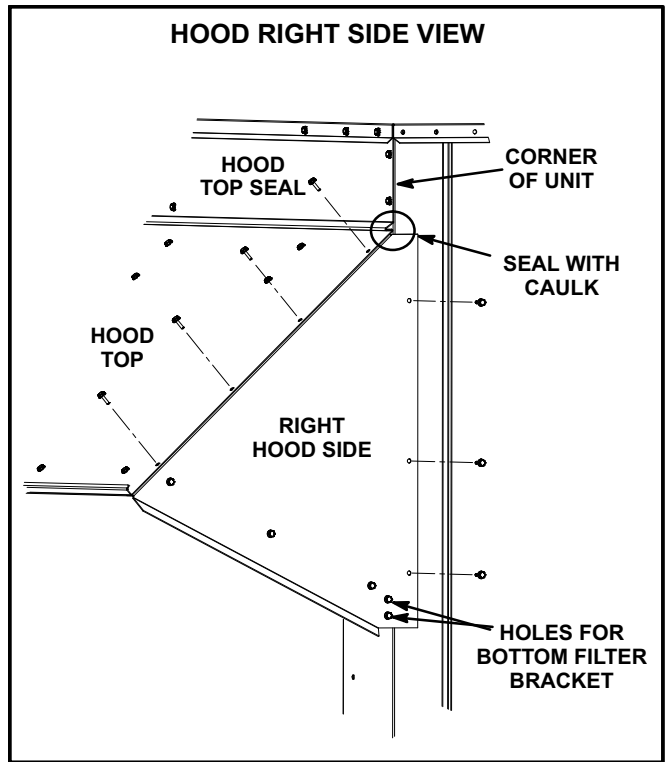

FIGURE 14
- 13- Secure the right hood side to the hood top. See figure 14. Do NOT secure the right hood side to unit.
- 16- Secure the right hood side to the unit as shown in figure 14.